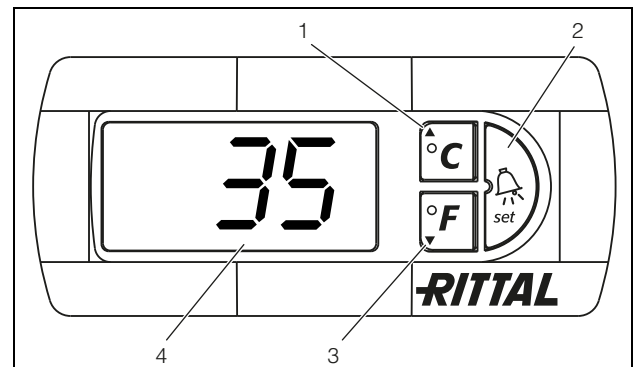

Fig. 35: e-Comfort controller
The cooling unit operates automatically, i.e. after switching on the power supply, the evaporator fan (see fig. 3, page 5) will run and circulate the internal enclosure air. The compressor and condenser fan are regulated by the e-Comfort controller. The e-Comfort controller has a 7-segment display (fig. 35, no. 4). After switching on the power supply, the current software version initially appears on this display for approx. 2 seconds together with the symbol to show Eco mode is enabled, followed by a preset option (e.g. t10) or the temperature.
The unit is programmed using buttons 1 – 3 (fig. 35). The relevant parameters also appear in the display.
- Simultaneously press buttons 1 and 2 (fig. 35) for at least 5 sec.
Using buttons 1, 2 and 3 (fig. 35) you can change 24 parameters within the preset ranges (min. value, max. value).